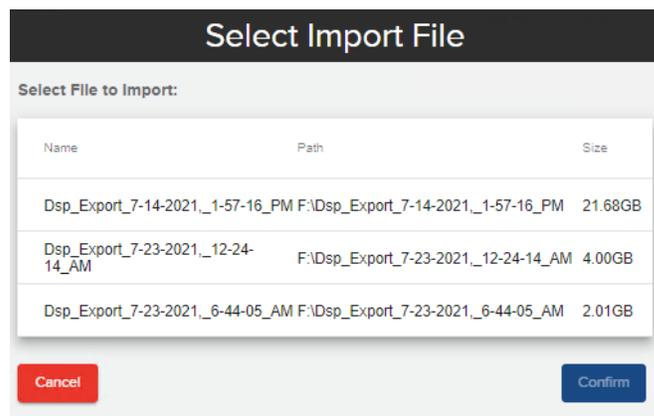

Figure 74: Select Import File window
5. The system will display all GeoMx files found on the selected drive. Highlight the desired file and click **Select**, then **Confirm** (Figure 74).